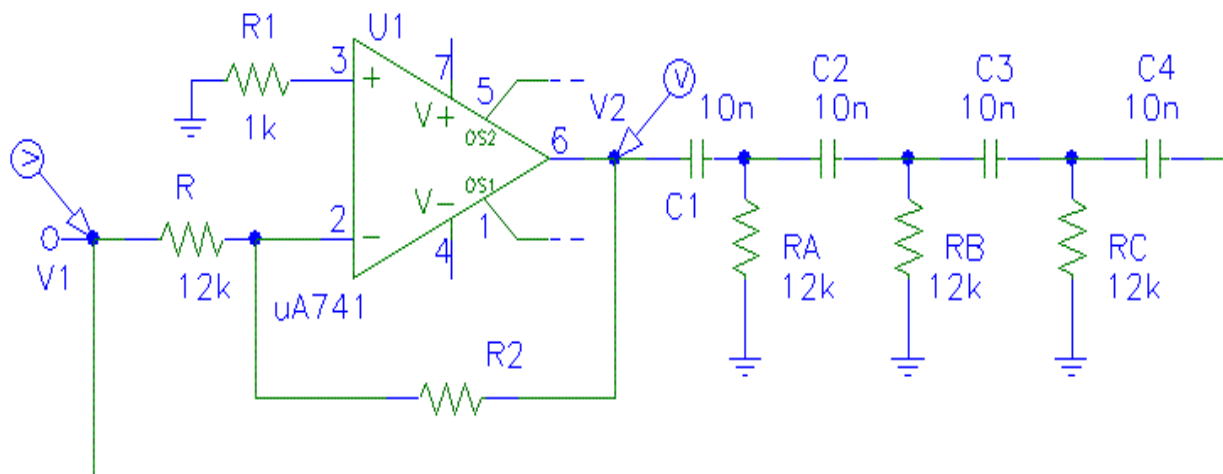

Figure 1
1. Introduction - If a linear feedback amplifier contains reactive elements, and at some frequency the loop gain  $A\beta = -1$ , sinusoidal oscillations will be obtained. The sine wave oscillators investigated in this experiment consist essentially of two separate but connected parts; the amplifier part and the frequency determining part. Probably the simplest type of feedback oscillator is shown in figure 1. Here the amplifier function is the ratio,  $V_2 / V_1 = -R_2 / R$  and through the phase shift circuit, the ratio  $V_1/V_2$  is a function of frequency. In other words the amplifier yields a phase inversion of  $180^\circ$  and a 180-degree phase-shift-circuit is used to produce a zero loop phase shift.